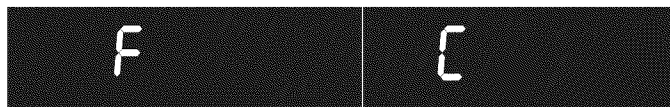

Figure 19: Display showing Fahrenheit and Celsius
2. Once F (or C) appears in the display, press the Up / Down arrow keys to toggle between Fahrenheit and Celsius temperature display modes (See Figure 19).